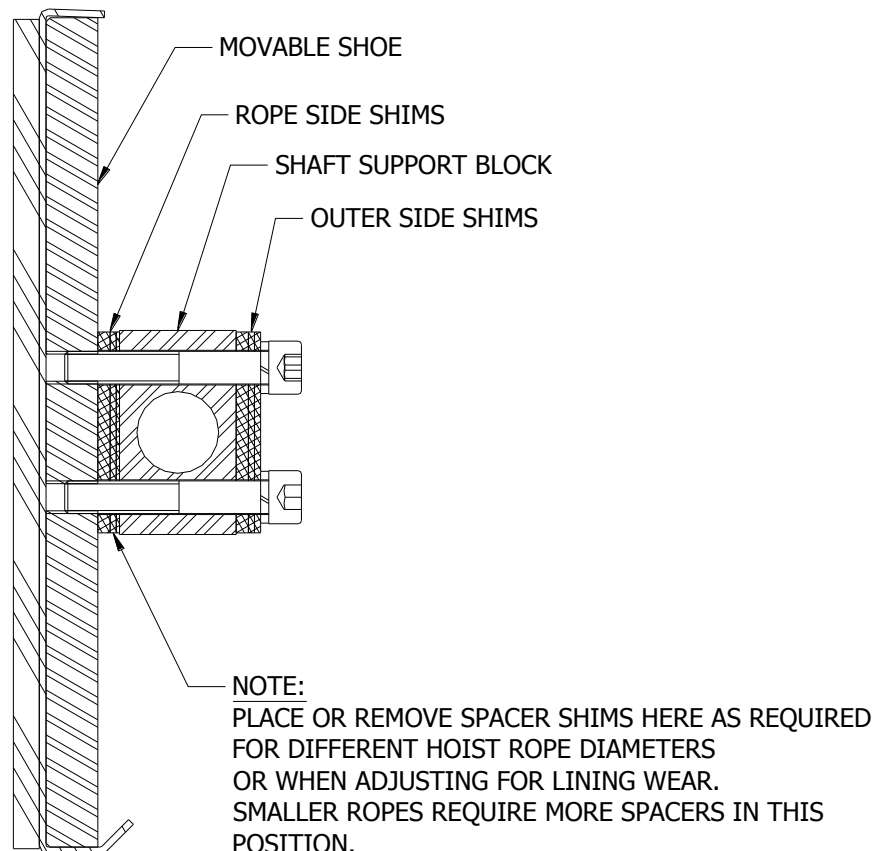

Figure 6
- If the lining wear-in is not completed after the grooves in the linings have reached approximately 1/16" (1.5 mm) deep, spacer shims (Figure 6) can be moved from between the shaft support blocks and moveable shoe to the outside of the support block to allow the rotating shaft to just turn the corner and move up the cam to near the wear-in line. Refer to Table 2 for initial spacer and shim set-up. **Note: Before changing spacers, install security set screws to prevent unintended "ROPE GRIPPER™" activation, which could lead to severe personal injury and/or damage to the unit.**
- **If lining wear is not excessive**, less than 3/16” (4.75 mm), spacer shims (Figure 6) can be moved from the back side of the shaft support blocks to between the shaft support blocks and moveable shoe. Remove the bolts that hold the blocks to the movable shoe, move the spacer shims to under the blocks and reinstall and tighten bolts. Addition of shims between the block and the shoe will lower the position of the rotating shaft toward the bottom end of the cam when clamping.